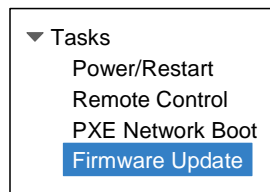

Figure 9-6 IMM menu
2. Select **Tasks** → **Firmware Update**, as shown in Figure 9-6.